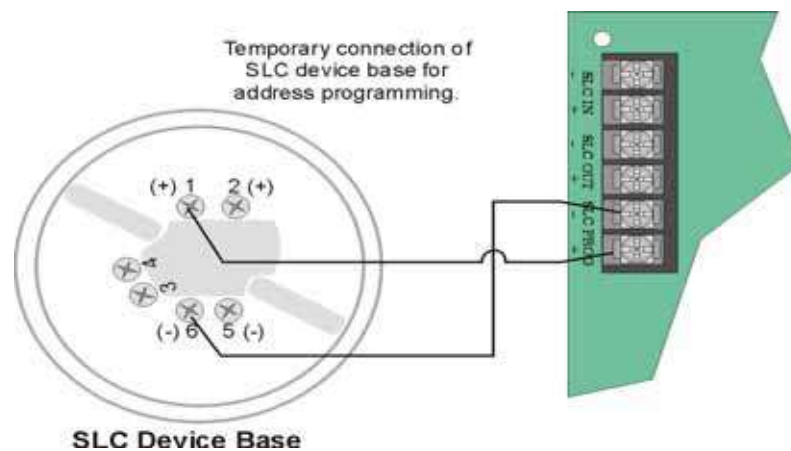

Figure 5-7 Temporary Connection of Detector Base to Panel for Addressing
1. Connect a detector base temporarily to the programming terminals as shown in Figure 5-7. (You can use the same base for each detector.)